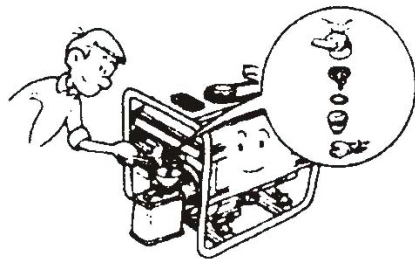

Figure 46
7.2.1 Loosen the drain bolt on carburetor and drain fuel inside it (Figure 46)